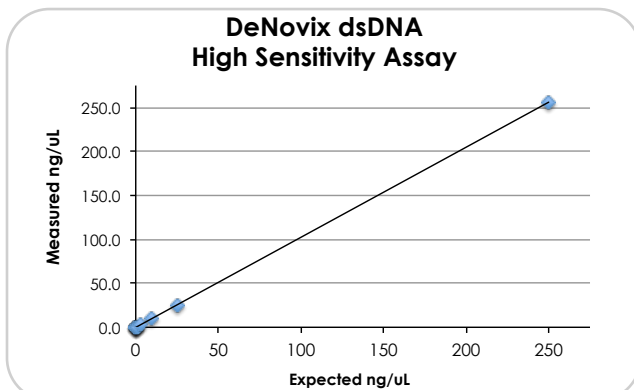

Fig. 2. Calf Thymus DNA measured using the DeNovix dsDNA High Sensitivity Assay on a DS-11 FX fluorometer.
3. Plot the fluorescence RFU values for the DNA standards on the y-axis and ng/well DNA on the x-axis, and fit a trend line (Figure 2) through these points to generate a standard curve with a y-intercept = 0.